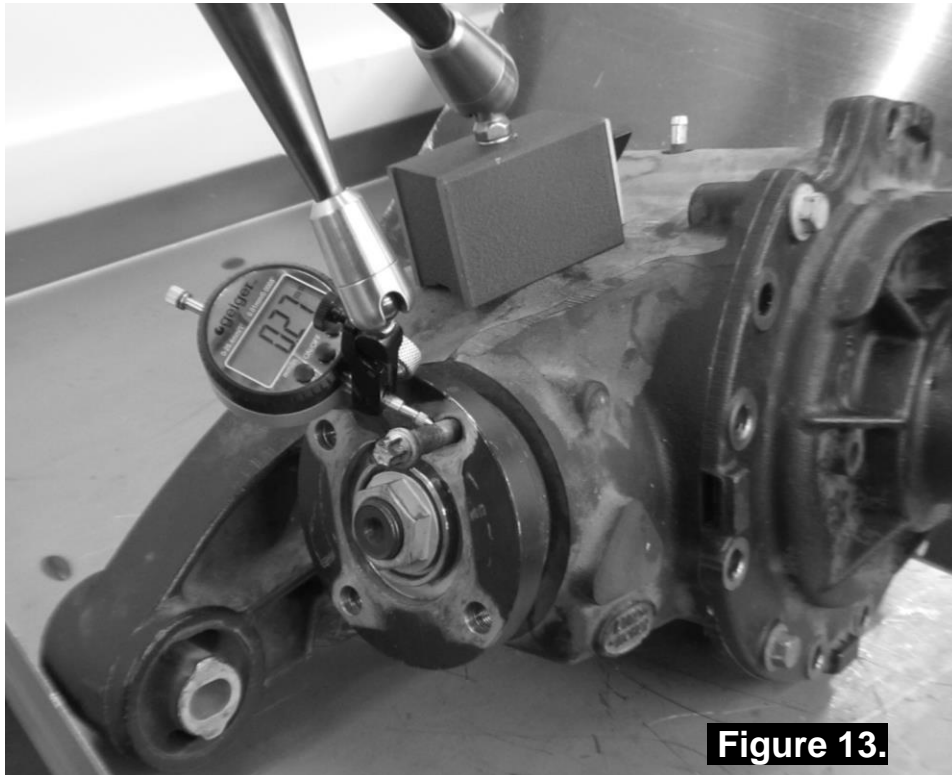

Figure 13.
- Screw a bolt into the flange to measure off, and set a dial indicator in place as shown. (Refer to Figure 13.)